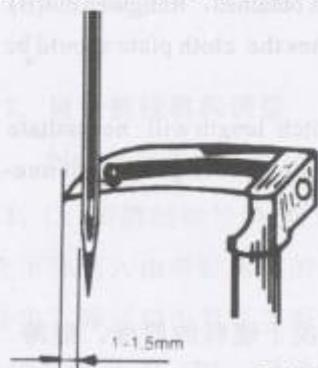

图7 Fig.7
卸下针板, 将皮带轮按工作方向转动, 使弯针运行至左边, 当弯针尖超出机针直径1~1.5毫米(0.040至0.060英寸)时, 机针的针眼上缘须和弯针的底边齐平(图7所示)。调整机杆高度的, 拧松针杆连轴节螺钉(图3, B), 上下移动针杆至适合位置后再拧紧螺钉(B), 并重新装上针板。
Remove the needle plate. Rotate the machine pulley in operating direction until the looper moving to the left. When the looper point projects 1-1.5mm(.040 to .060in.) left of the needle, lower edge of looper and upper edge of needle eye must be flush in this position (Fig. 7) For adjustment, loosen clamp screw (B, Fig. 3) in the needle bar up or down as required. Retighten screw (B) and remount needle plate.